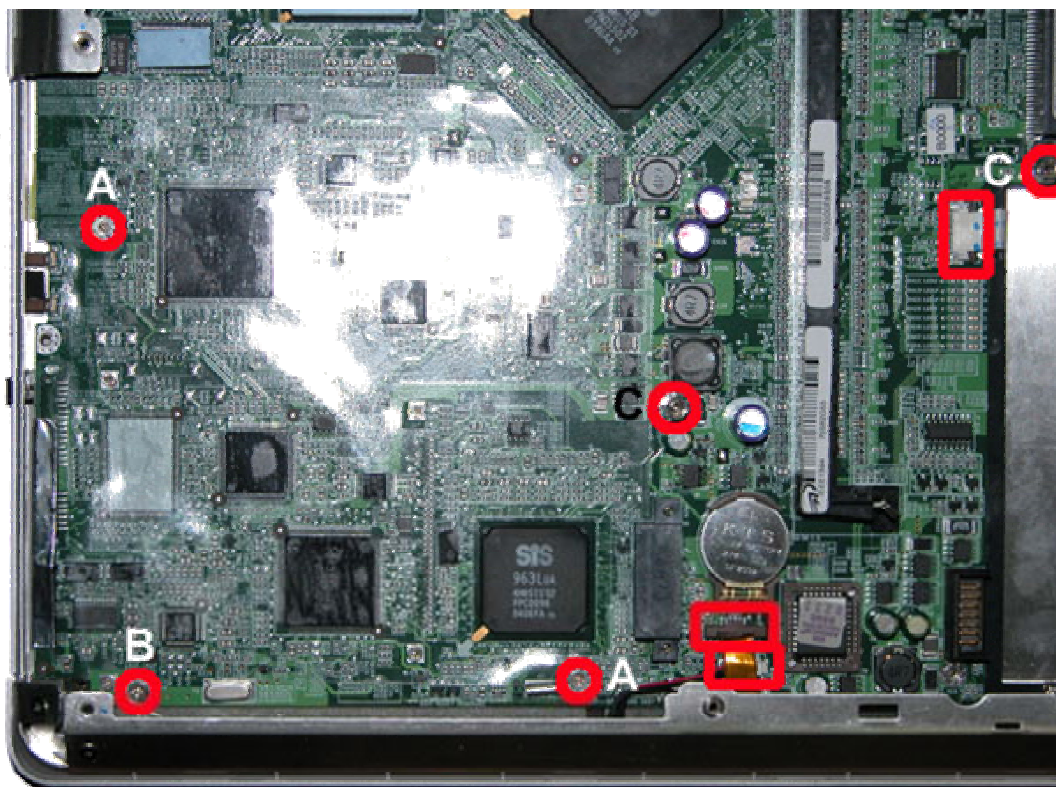

Fig. 28 Main Board
3. Remove the Hex screws from the VGA Port as shown in Fig. 28